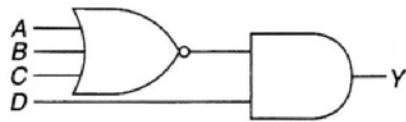

Figure 4-7 Logic circuit for question 16.
16. The Boolean expression for the logic circuit drawn in Figure 4-7 is